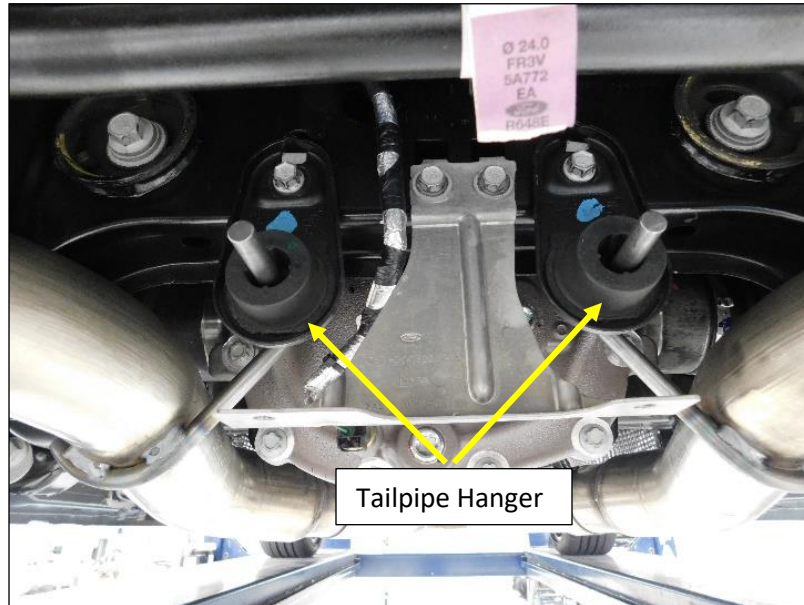

Figure 4
5. Remove the tailpipe hanger mounting bolts, but do not remove the hangers (Fig. 4).